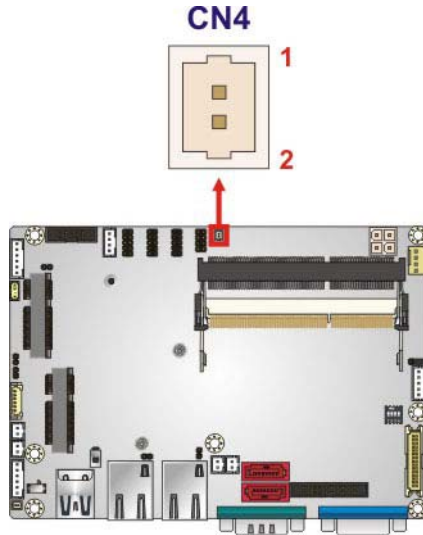

Figure 3-5: Battery Connector Location
- CN Location:** See Figure 3-5